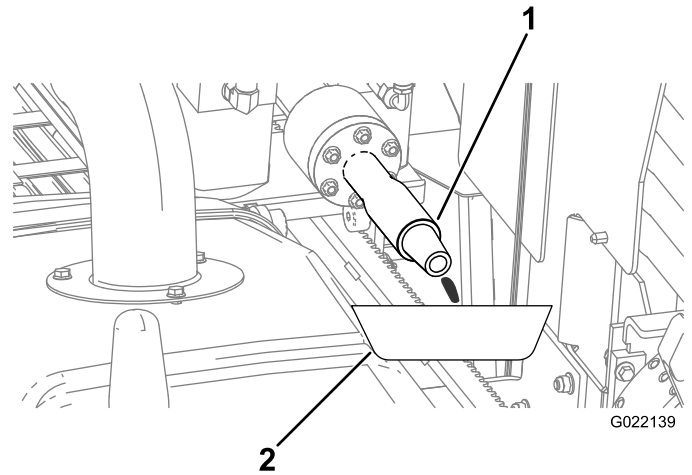

Figure 157
- A. Place a drain pan under the drill spindle for the leaked antifreeze (Figure 157).
E. When the antifreeze comes out of the drill spindle (Figure 157), turn the pump off.